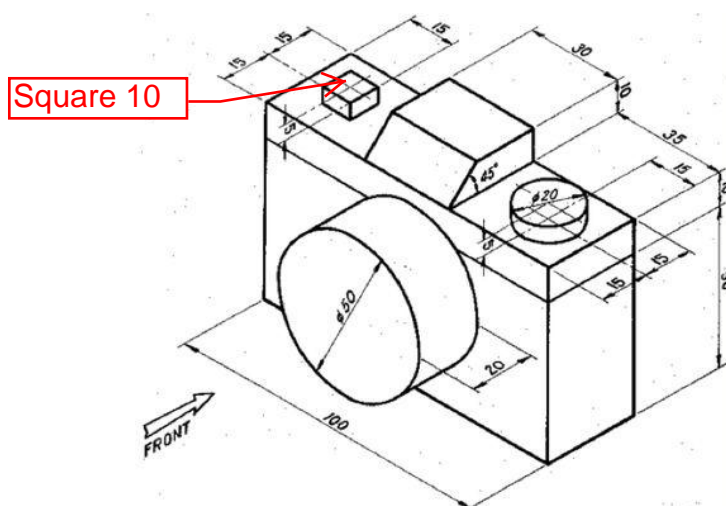

Fig. 9.3
3. Create a simple model of a camera shown in Figure 9.3 and add any new features to it